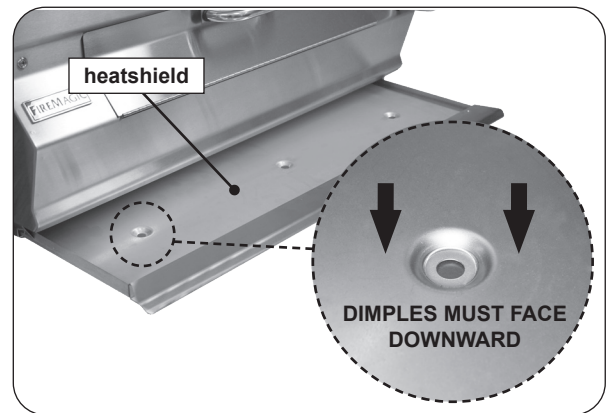

Fig. 14-2 Install drip tray
1. Place the heatshield inside the drip tray **with the dimples facing downward** (See Fig. 14-2).